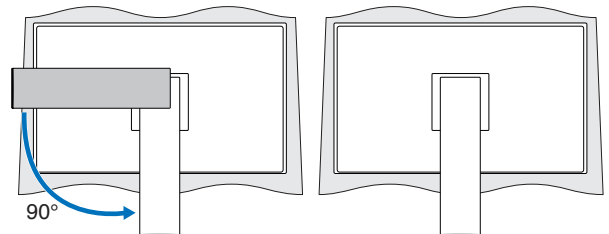

Figure 1
1. Place the monitor face down on a non-abrasive surface (**Figure 1**).
2. Please rotate the monitor stand 90 degrees as shown in **Figure 1**.